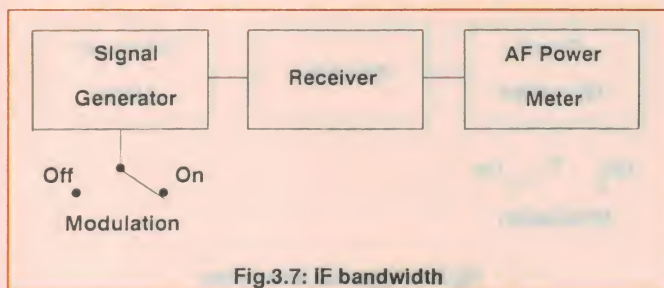

Fig.3.7: IF bandwidth
- i) Connect the equipment as shown in Fig.3.7.